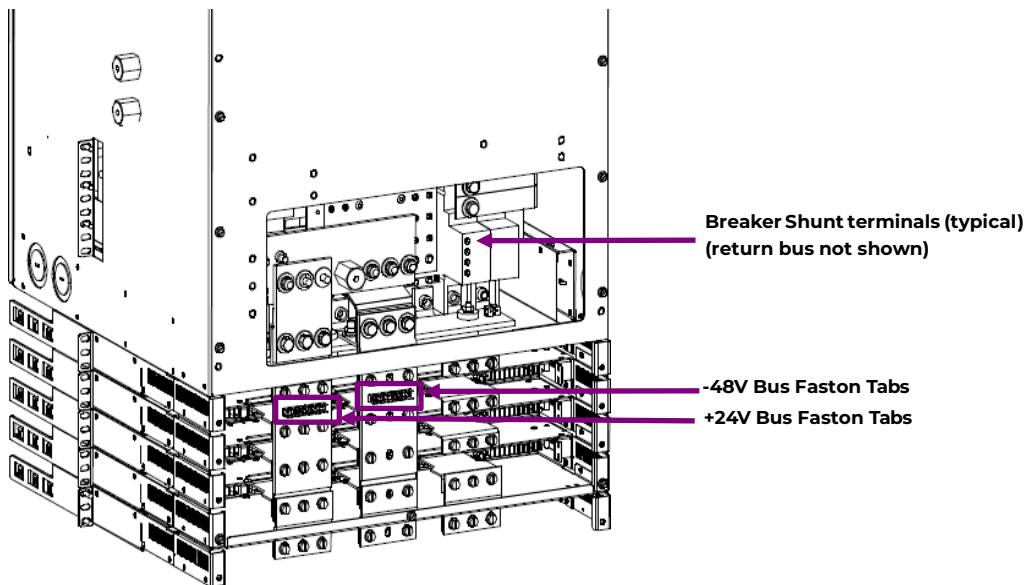

Figure 5 Terminal Locations (rear view)
Figure 5 Terminal Locations (rear view) .....	7
- b. On the -48V and +24V buses - Figure 5
Yellow wire to top alarm strip Faston tab of the left side distribution panel (front access). White wire to Battery Bus – Faston tab (rear access) - Figure 5.
See Figure 5 for Breaker and Battery Bus terminal locations